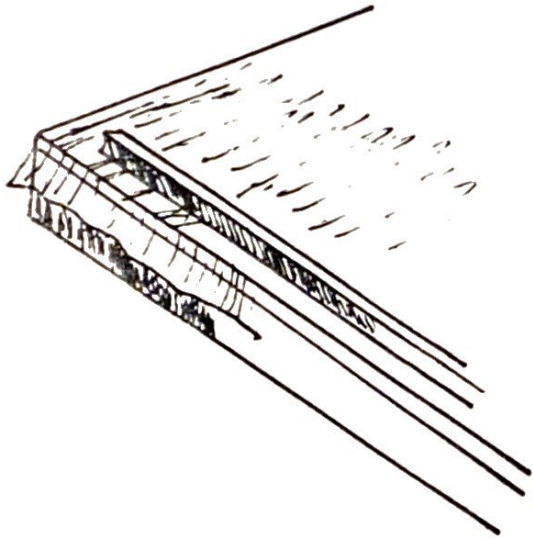

Fig. 7
- 4) Take the rest of the 4 strips and force them into the angles of the steps, forcing the mesh down, and nail with 3 inch distance between them. (see fig.7). This will stretch the mesh as tight as a drum.